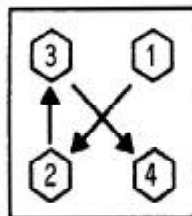

Fig. 1
4. Torque the rod nuts in the sequence shown in Fig.1 per each of the four steps shown in the table. (Ft/Lbs.)
7. Tighten the tie rod nuts in the sequence shown in Fig.1 with a 2/12ths maximum turn per each sequence.